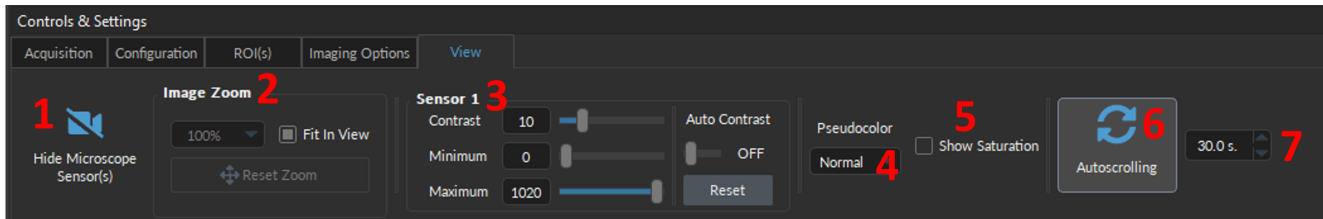

Figure 7.16: View Tab
The **View Tab** (Fig. 7.16) is used to modify the presentation of microscope image and the ROI(s) / Digital IO graphs in the **Acquisition view**.
1. The **Hide Microscope Sensor(s)** button (Fig. 7.16, 1) removes the **Microscope View** from the **Acquisition View**, automatically enlarging the **ROIs / Signal View**. Disabling **Hide Microscope Sensor(s)** (renamed **Show Camera Feed(s)**), re-displays the **Microscope View**.
2. The **Image Zoom** (Fig. 7.16, 2) includes the following:
3. The **Sensor 1** (Fig. 7.16, 3) is used to adjust contrast on a given sensor. When a microscope used has multiple sensors, multiple **SENSOR** sections will be displayed, one for each sensor.
- The **Auto Contrast** (Fig. 7.16, 4) will activate an automatic contrast adjustment algorithm, and will set the contrast to maximize the difference between the maximum and minimum values based on current values collected. The **Reset** button re-adjusts the contrast functions to their default settings, before the algorithm was enabled.
4. The **Pseudocolor** drop-down (Fig. 7.16, 4) maps the pixels values to a pseudocolor range (of 13 possibles options) to facilitate viewing.
5. The **Show Saturation** checkbox (Fig. 7.16, 5) is only available when the **Auto Contrast** setting is disabled.. When enabled, saturation pixels will turn red. This function is only available if no pseudocolor is selected.
6. The **Autoscrolling** button (Fig. 7.16, 6), when selected, automatically set the graphs to scroll as new data appears.
7. The **Zoom range** text-box (Fig. 7.16, 7) sets the graph zoom to the value of choice, specified in the text-box.